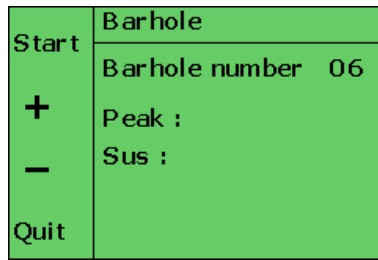

Figure 30: Barhole - Screen 3
No button will keep the existing data. The next screen will display the next barhole number without data (as shown in Figure 30: Barhole - Screen 3).
- Once the purge is complete, the Barhole Testing main menu will be displayed with the next available barhole number (as shown in Figure 30: Barhole - Screen 3).